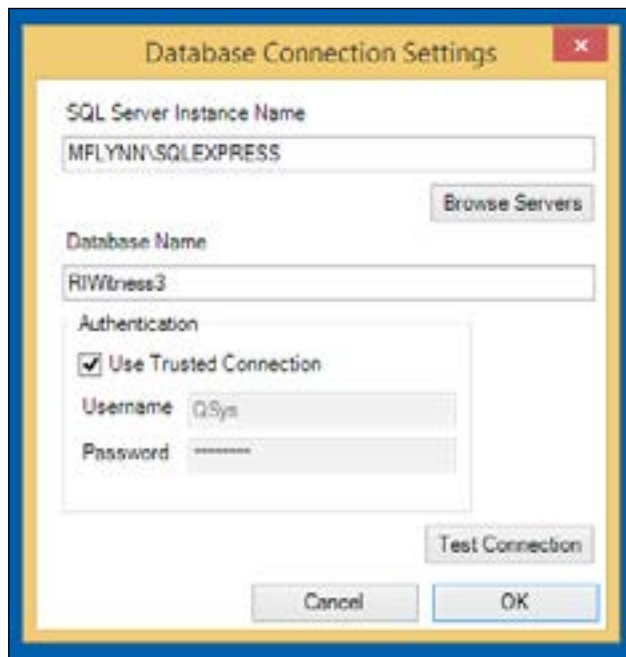

Figure 6-9 Database connection settings
- Click the **Database Settings** page button to show the database connection settings window and enter the appropriate server name, database name and authentication details. See Figure 6-9.